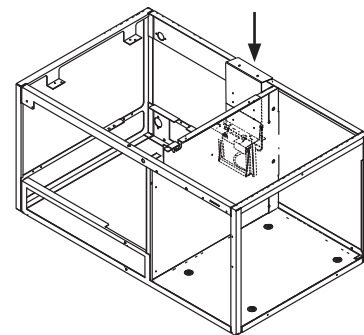

**Fig. 4**
- 8) Remove the top, left, and right panels. See "II.C. How to Remove Panels" in the instruction manual. Also, if not already removed, remove the lower rear panel. See Fig. 4.
- 12) Remove connector guide A, then disconnect the bin control connectors located in the wire channel. See Fig. 4.